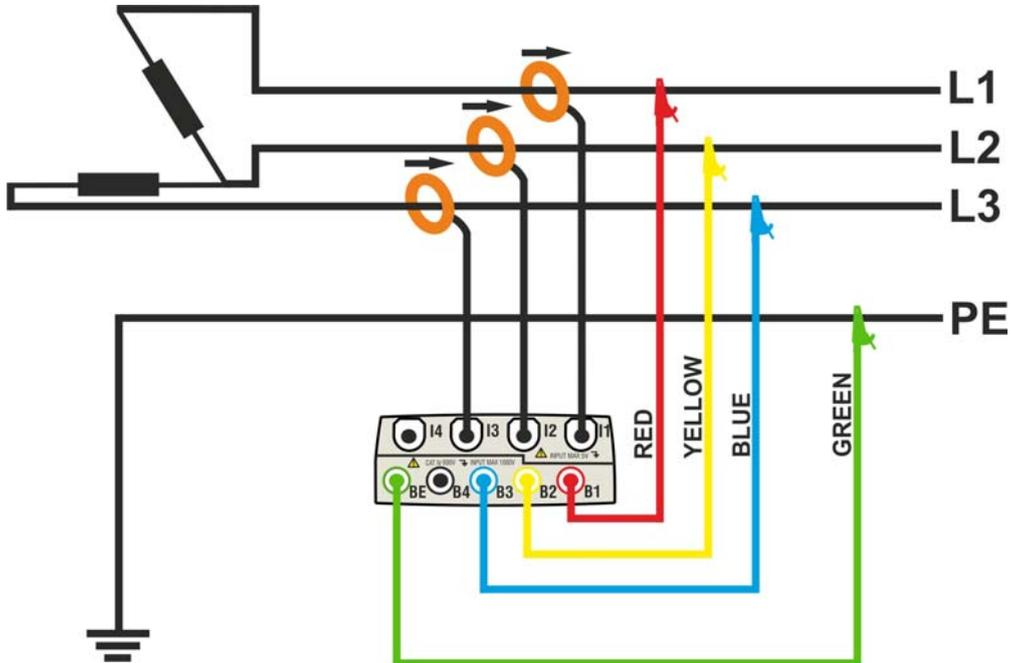

Fig. 125: Meter connection in a three phase 3-wire 3P OD system – ENG_UK type
2. Connect voltage test leads on Phases L1, L2, L3 and PE cables considering the colours as shown in Fig. 125. **Verify the result “123” at display relative to a correct phase sequence indication** (see § 5.2.1) and perform the corrections if necessary.
3. Connect the transducer current clamps on Phase L1, L2, L3 cables as shown in Fig. 125 respecting the clamp’s arrow direction indicating the current standard sequence from generator to load. **On Real Time Values’ section screens (selecting a 3 wire system preliminarily) always verify the positive value of Active Power and the power factor relative to load which should be normally inductive** before starting a recording. Reverse the clamp by 180 degrees on cables in case of negative readings.